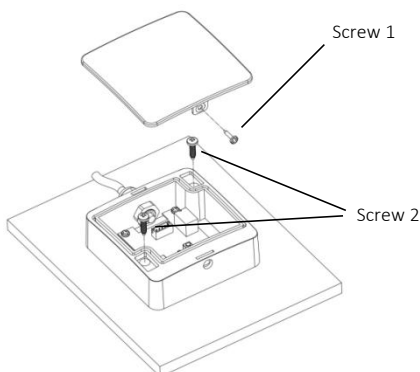

Fig.2
- For Rcontact RF: Open the cover then use the screw 2 to fixed it on the wall. (Fig.2) Tighten the screw 1 to achieve the best results in waterproofing.